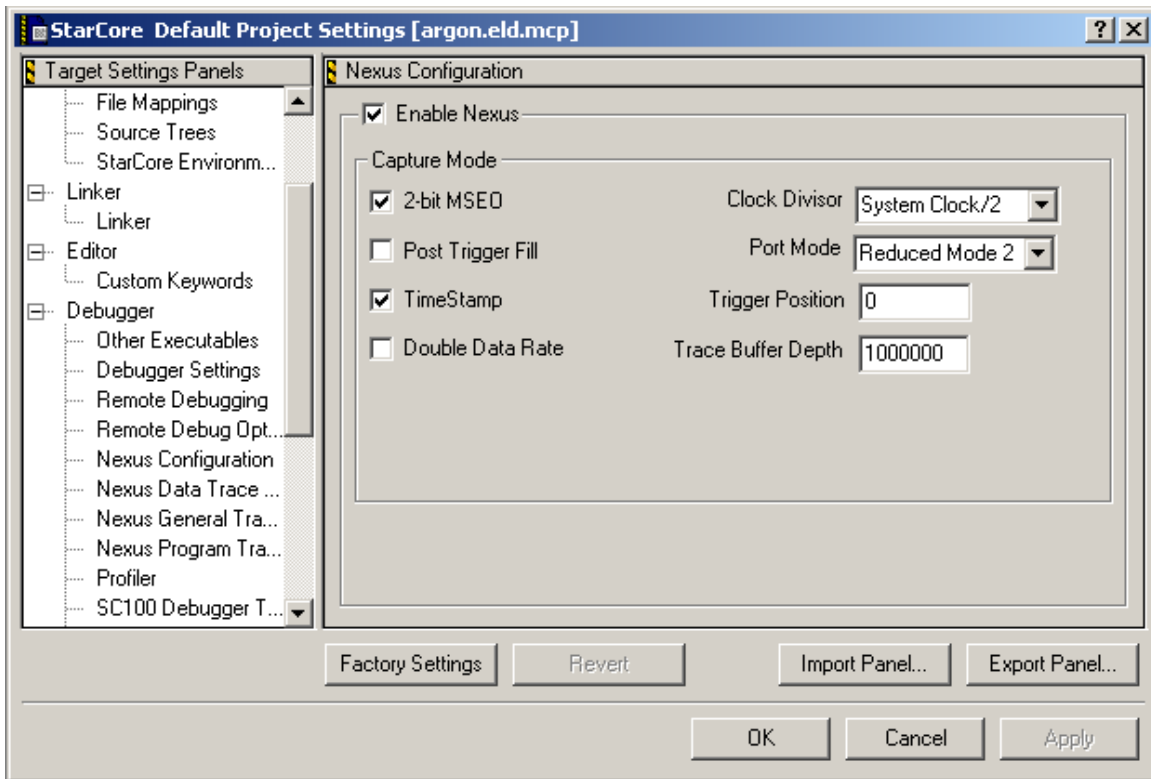

Figure 15: Nexus Configuration for Exception Trace
- a. Nexus Configuration: Figure 15: Nexus Configuration for Exception Trace shows the recommended configuration for Nexus Trace. This configures for the best possible interface to the RVT hardware and enables timestamps in the trace data.
- a. Nexus Configuration setup is similar to previous example, this is simply setting the hardware interface between the Argon and the ARM RVT. Figure 15: Nexus Configuration for Exception Trace shows the correct setup for the Nexus interface.